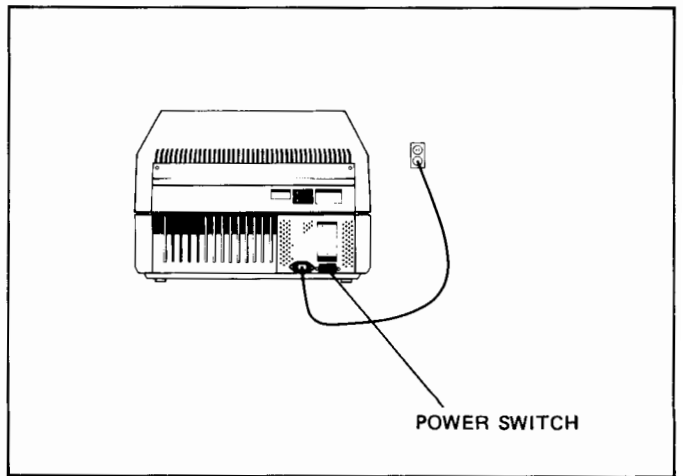

Figure 2-7. Terminal Connection to Power Source
5. Set the power switch to the OFF position. Connect the power cord to the terminal power connector (figure 2-7).